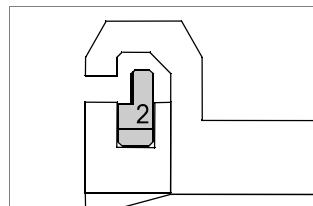

Fig. 59
- 1) Raise the safety shield, loosen the handle (N) and turn the depth regulating ring nut (O) so that the number 6 corresponds with the spindle support notch (it will click into place). Block the handle (N).
- 2) Fit insert 1-2 in the clamp with notch 2 towards the operator (fig. 59).